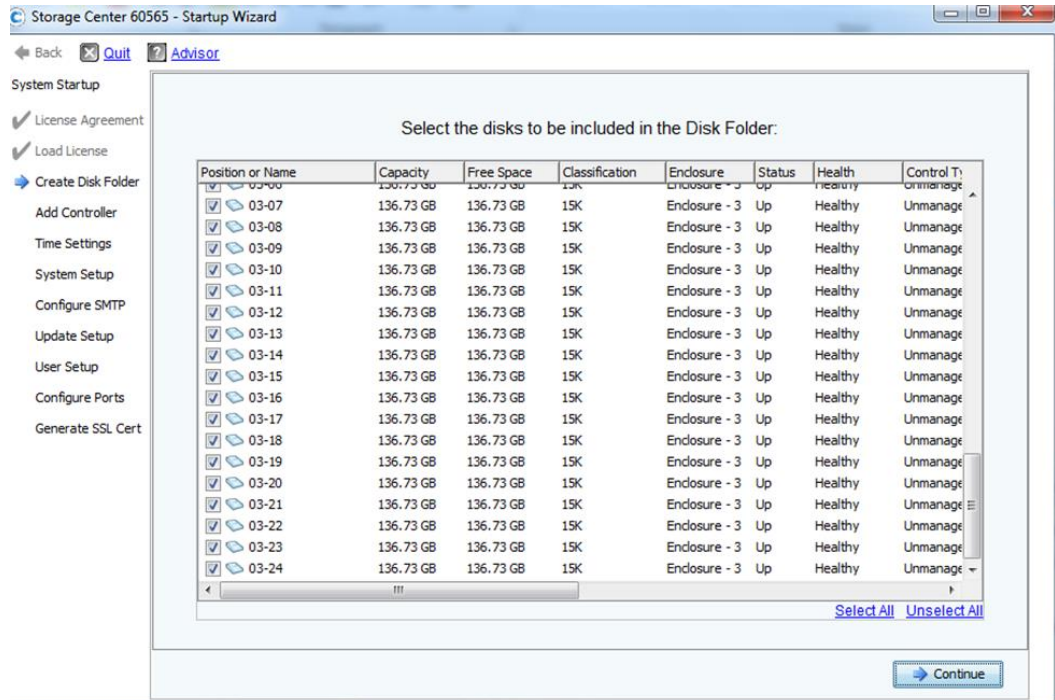

Figure 17. Create a disk folder
1. From **Create Disk Folder** page, the under **Select the disk to be included in the Disk Folder**, select the disks, and then click **Continue**, as shown in Figure 17.